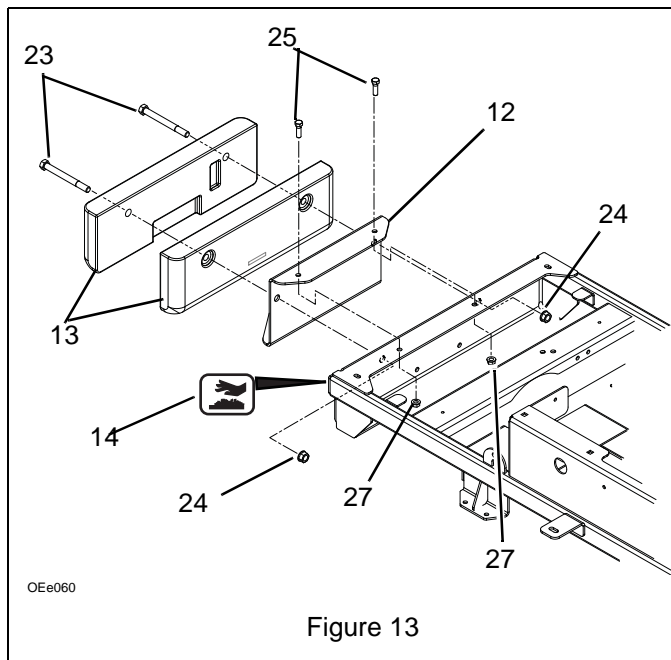

Figure 13
(Figure 13)
1. Position the weight bracket (item 12) in the center of the rear frame rail so the two 1/2" mounting holes align with the holes in the rear frame rail. Use weight bracket as a template to lay out two 7/16" mounting holes in the top of rear frame rail.
2. Drill two 7/16" holes through the upper frame rail as shown in Figure 13.
3. Install the weight bracket (item 12) on the rear frame rail with two 3/8"-16 x 1-1/4 hex bolts (item 25) and 3/8"-16 top locking flange nuts (item 27).
4. Install the two cast iron weights (item 13) on weight bracket (item 12) with two 1/2"-13 x 5 hex bolts (item 23) and 1/2"-13 top locking flange nuts (item 24). The bolts go through the weights, weight bracket and frame.
5. Install two hot surface decals (item 14) on unit.